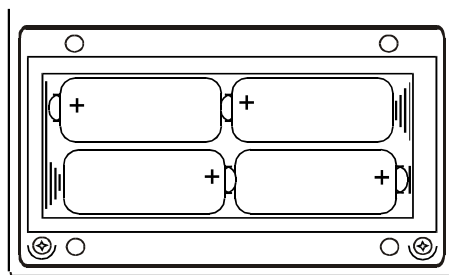

Figure 22. Correct polarity of inserted batteries
- Insert batteries correctly, otherwise test instrument will not operate and batteries may be discharged, see figure 22. for correct battery polarity.